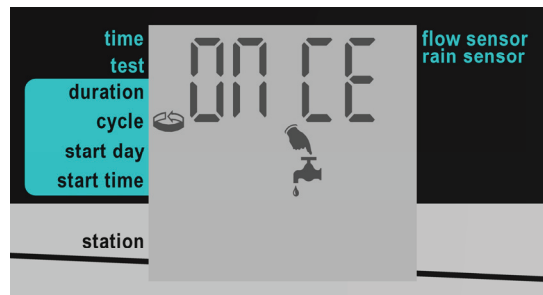

Figure 21: Cycle Screen
1. Press \hookrightarrow until the Cycle screen appears (Figure 21). The message “ON CE” is displayed by default, indicating that the cycle pattern is set to one time only.
1. Press \hookrightarrow until the Cycle screen appears (Figure 21).